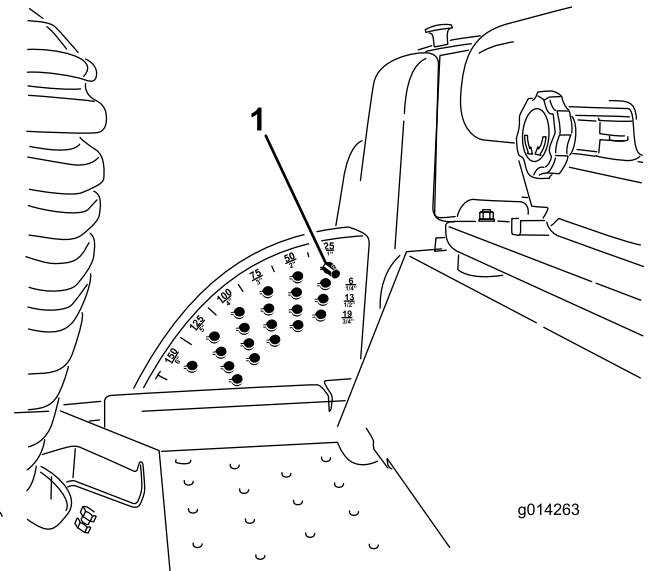

Figure 16
Note: To lock the mower deck in a raised position, raise the deck past the 6 inch (15 cm) position, remove the height of cut stop pin (refer to Adjusting the Height-of-Cut), and place the pin in the 6 inch (15 cm) height-of-cut position (Figure 16).
1. With the engine running, push back on the deck lift switch until the mower deck is fully raised and **release the switch immediately** (Figure 16).
2. To adjust, rotate the stop pin until the nub on it lines up with the slots in the holes in the height-of-cut bracket and remove it (Figure 16).
3. Select a hole in the height-of-cut bracket corresponding to the height-of-cut desired, insert the pin, and rotate it down to lock it in place (Figure 16).
Note: There are four rows of hole positions (Figure 16). The top row gives you the height of cut listed above the pin. The second row down gives you the height listed plus 1/4 inch (6 mm). The third row down gives you the height listed plus 1/2 inch (12 mm). The bottom row gives you the height listed plus 3/4 inch (18 mm). For the 6 inch (15.8 cm) position there is only one hole, located in the second row. This does not add 1/4 inch (6 mm) to the 6 inch (15.8 cm) position.